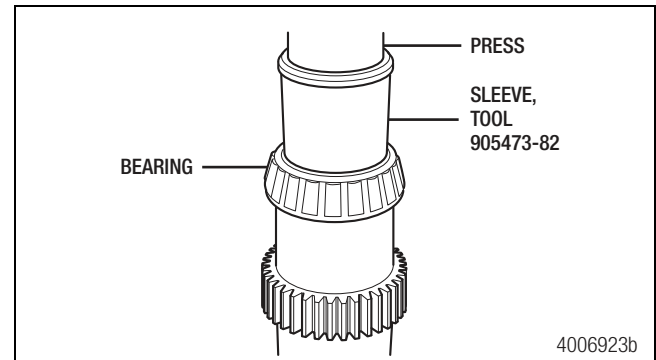

Figure 7.1
2. Use a press and sleeve, tool number 905473-82, to press the forward bearing DOWN onto the output shaft until it is fully seated. Refer to page 111 for the tool drawing. Press down only on the inner race of the bearing during installation. Use a 0.002" shim or feeler gauge to verify the bearing is correctly seated. Figure 7.1.